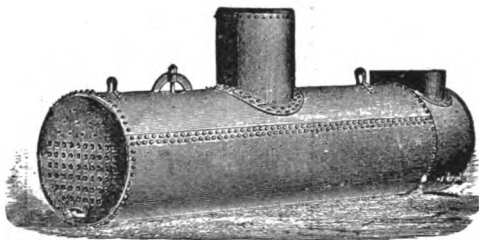

FIG. 3.—LONG SHEET MULTITUBULAR FLUE TYPE. (Erie City Iron Works.)
A. The "multitubular" type, having a great many tubes or flues comparatively small diameter in place of a smaller number of large flues. (Figs. 3 and 4.)